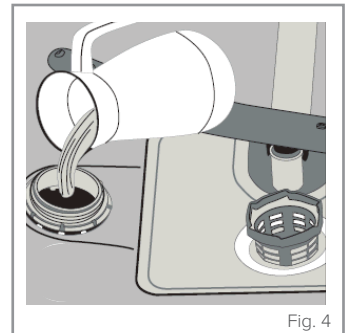

Fig. 4
2. Fill the compartment with dishwasher salt (do not use table salt), carefully to prevent unnecessary spillage. Before first use, you should fill the compartment with 1kg of dishwasher salt and then fill up the salt compartment with water (up to the brim of the compartment) as shown in Fig. 4 (page 12).